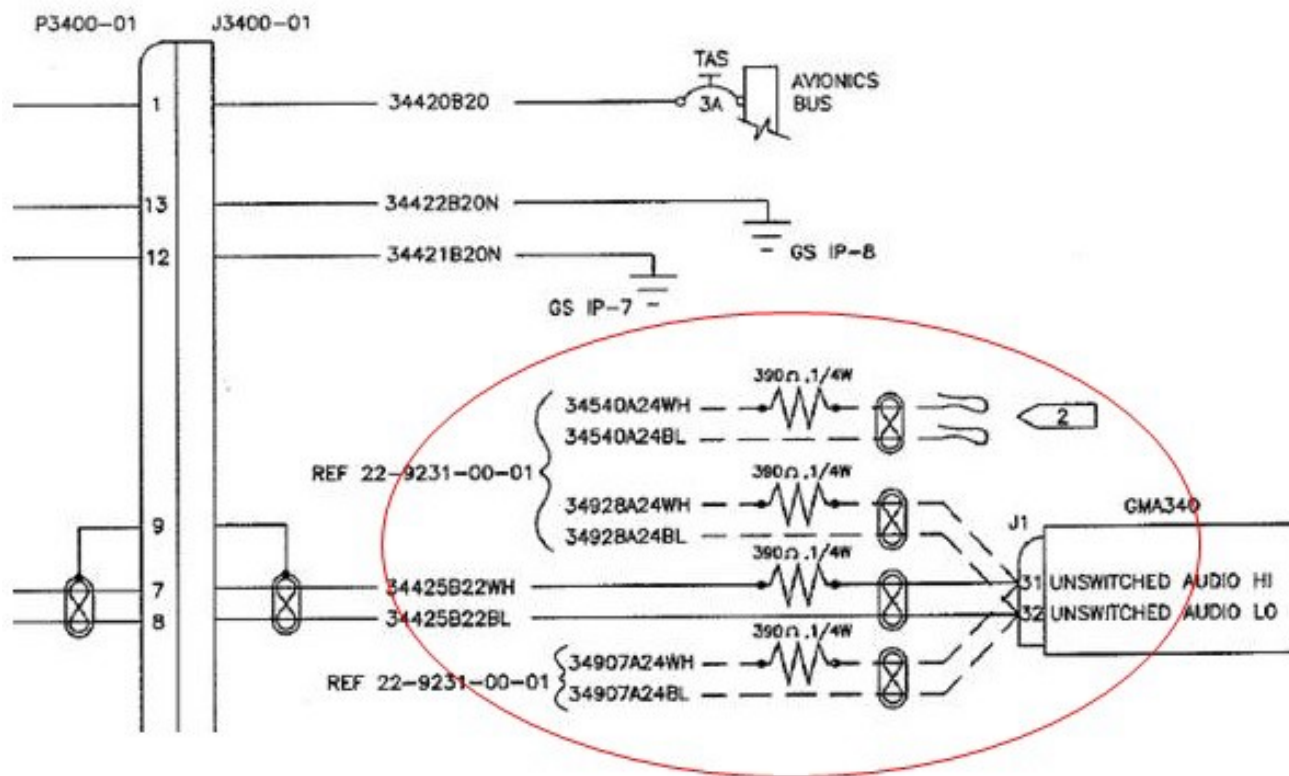

Figure 1. Reference for steps 4 to 6.
5. Pull out all four resistors and associated splices from the wire bundle. See Figure 1, below.
8. Locate wire 34540A24 and remove the splice between the white wire and the resistor. Take care to keep as much of the white wire as possible. Discard the resistor and jumper wire that is capped and stowed in the GMA340 J1 connector backshell (also refer to Figure 1).